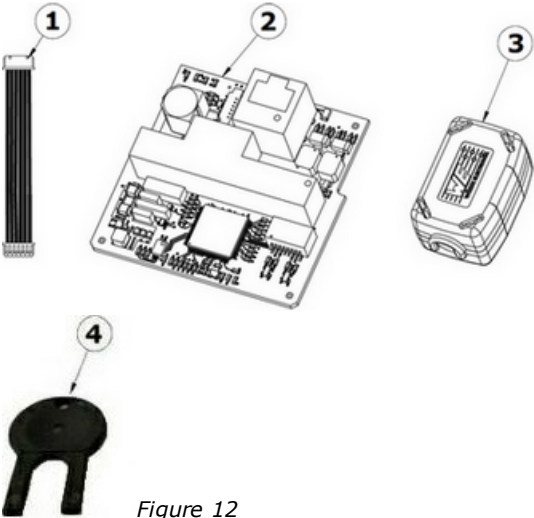

Figure 11
1. Slide the BLE module in place inside the plastic features (upper part) in the housing for electronics; see Figure 11.